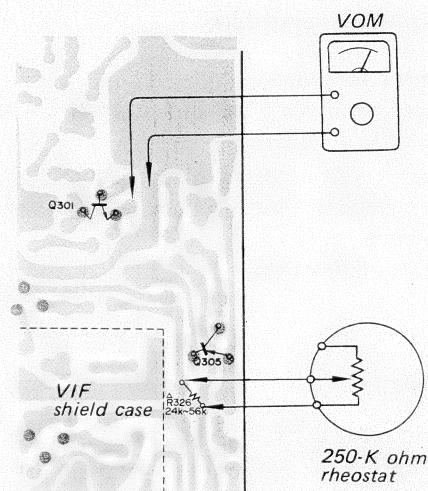

Fig. 3-4
2. Connect a 250-k ohm rheostat across a resistor R326 as shown in Fig. 3-4.
3. Connect a VOM between the emitter of Q301 and grounding point as shown in Fig. 3-4.
2. Connect the 250-k ohm rheostat across resistor R326 as shown in Fig. 3-4.